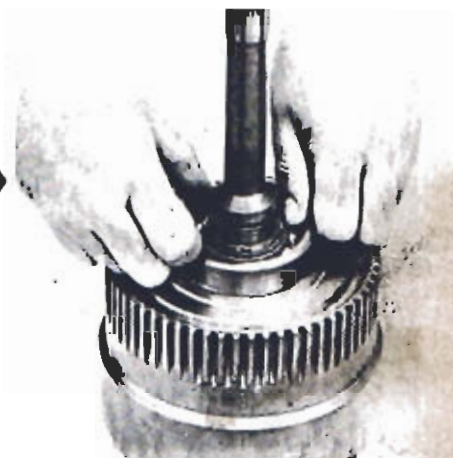

Figure 21 Assemble snap ring
**STEP 26** Install a snap ring (79) in clutch cylinder hub in front of bearing, figure 21.
**STEP 27** Assemble a thrust washer (28) against front face of planet carrier. Use petrolatum to hold washer in position during assembly.
**STEP 28** Assemble the two sealing rings (26) in groove of drive gear shaft. Use petrolatum to hold rings in position. Do not use rings which have been cut or mutilated in any manner.